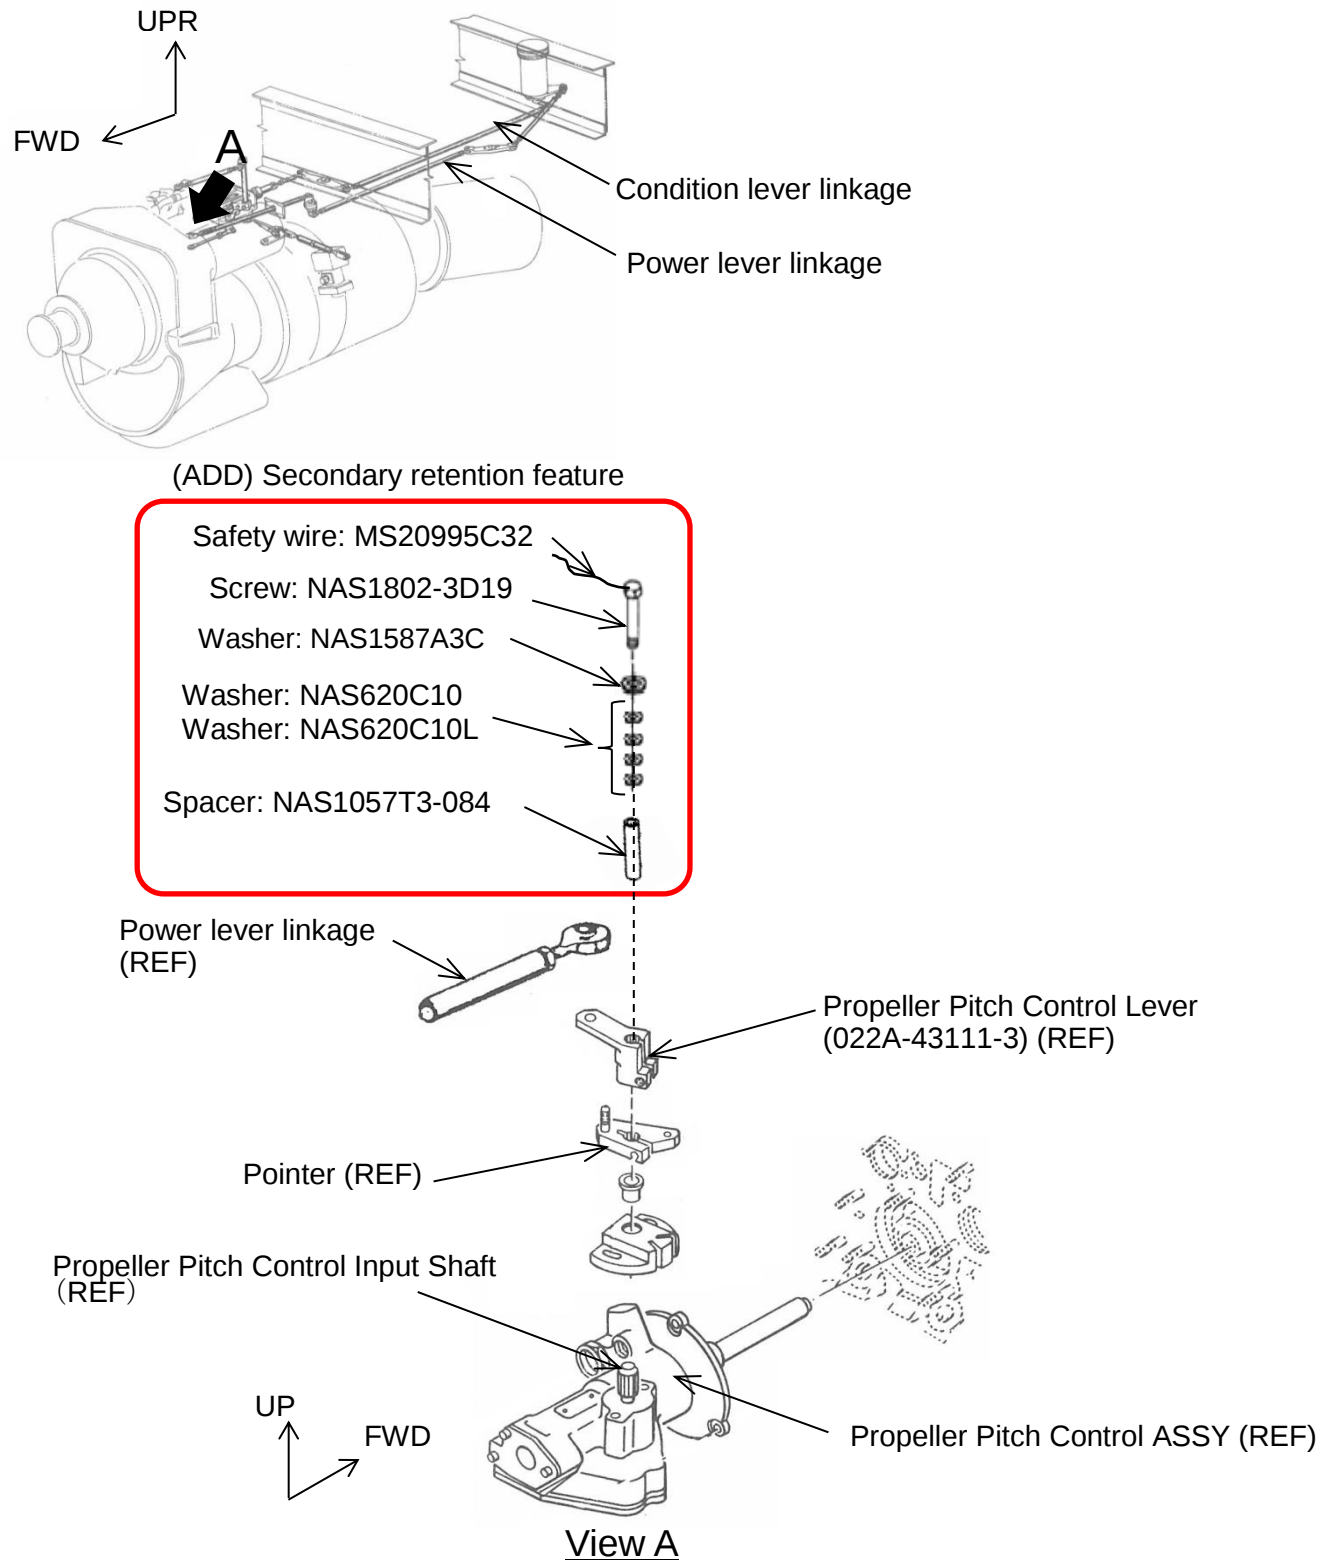

Figure 1 Installation of Secondary Retention Feature
- (2) Re-torque the clamping bolt (MS20073-03-05) to 20 to 25 lbs.
- (3) Install screw (NAS1802-3D19), counter washer (NAS1587A3C), gap adjustment washers (NAS620C10 and NAS620C10L), and spacer (NAS1057T3-084) to the threaded end of PPC shaft. (Ref to Figure. 1)